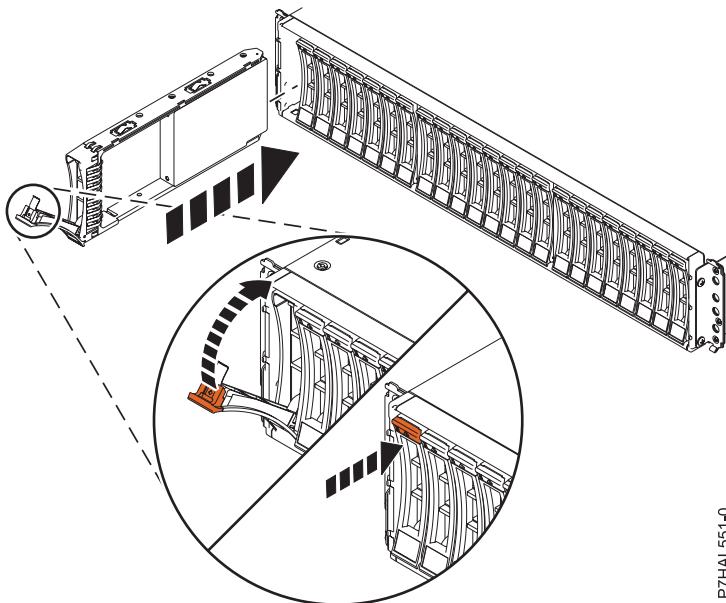

Figure 3. Installing the disk drive in the 5887 disk drive enclosure
1. With the handle in the unlocked position, as shown in Figure 3, support the bottom of the drive as you align it with the guide rails in the expansion unit.